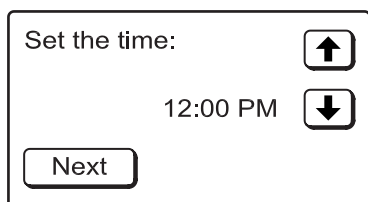

FIG. 16
- 2. CURRENT TIME:** Press the DOWN (↓) or UP (↑) buttons to set the current time (See Figure 16). Hold the button down to rapidly advance. Be sure AM or PM is correct. When the current time is shown, press the NEXT button.